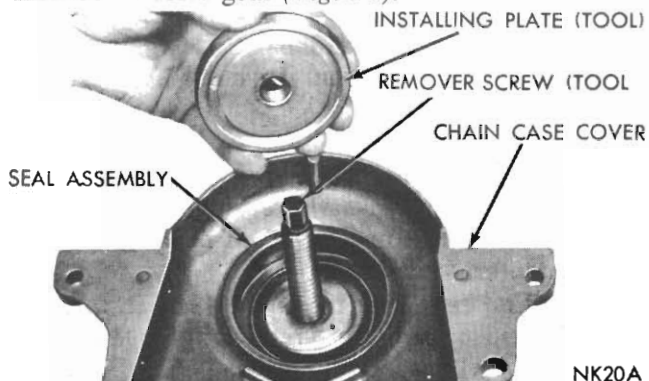

Fig. 22 - Positioning installer plate on a new seal (Tool E9C57A)
(1) Insert remover screw through removing and installing plate so that the thin shoulder will be facing up.
(2) Insert remover screw with plate through the seal opening (inside of chain case cover facing up).
(3) Place seal in the cover opening, with neoprene down. Place the seal installing plate into the new seal, with protective recess toward lip of seal retainer (Fig. 22).